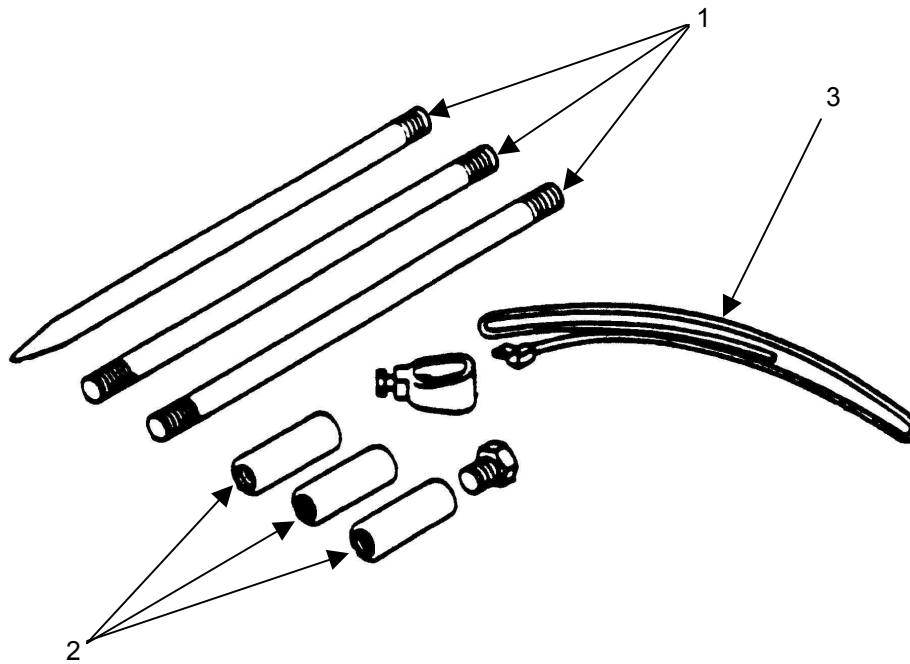

Figure 5. Grounding Rod Assembly
A 2kW Generator is typically used to provide 110VAC power to the power converter. The grounding rod is supplied in sections (**figure 5, item 1**) that are connected together using threaded fittings (**figure 5, item 2**). The grounding rod is driven into the ground in the vicinity of the MKT grounding lug that is located on the front driver's side of the vehicle chassis. The grounding cable (**figure 5, item 3**) is then connected between the MKT grounding lug and the grounding rod.